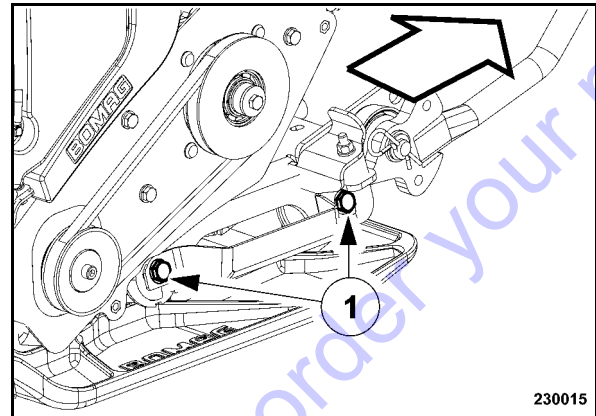

Fig. 58
- Pull the engine carrier back (Fig. 58), until the correct V-belt tension is achieved and tighten the fastening screws (1).